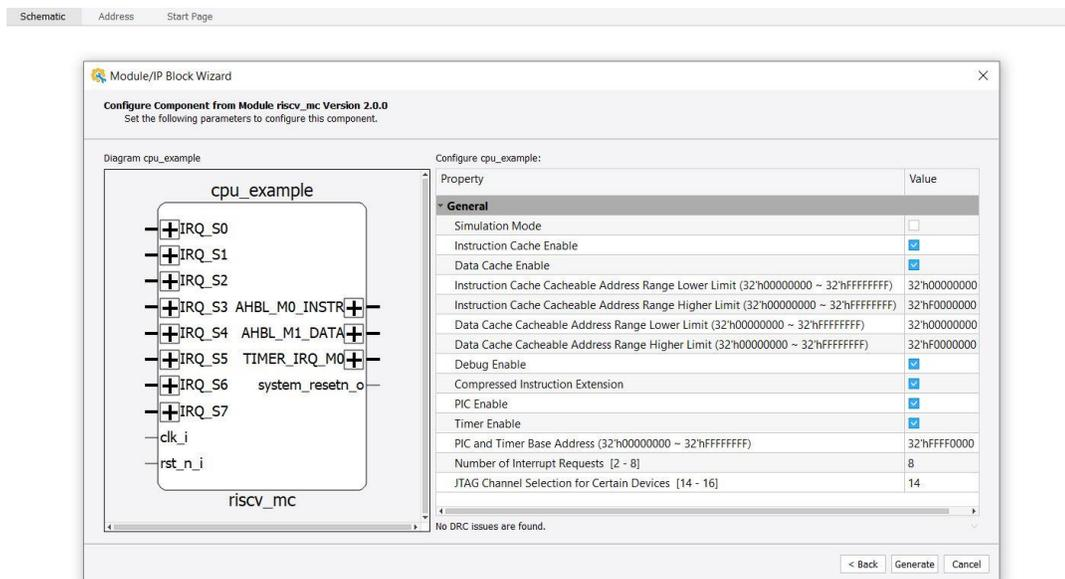

Figure 3.2. Configuring Parameters
3. Configure the parameters as shown in Figure 3.2. Click **Generate**.